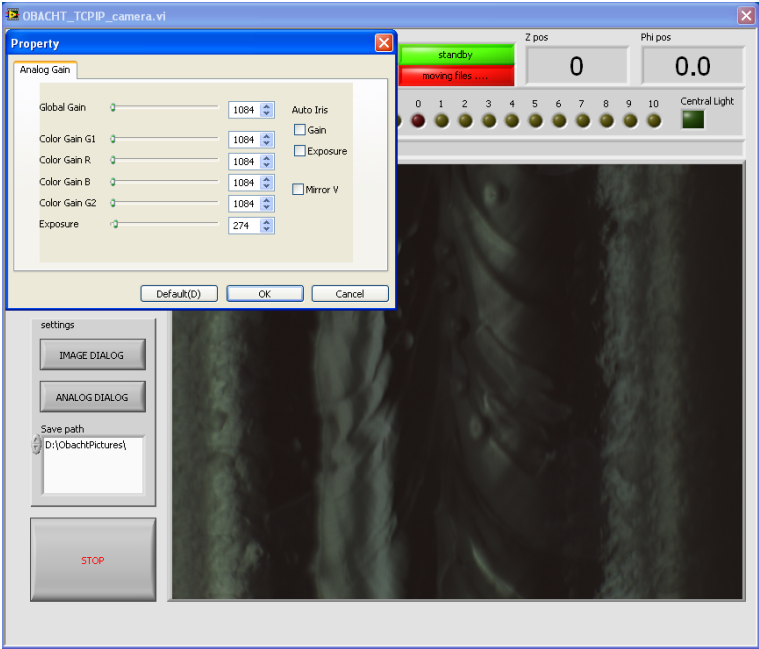

Figure 11: Screen shot of camera GUI – 'ANALOG DIALOG'
- 'ANALOG DIALOG' visible in figure 11